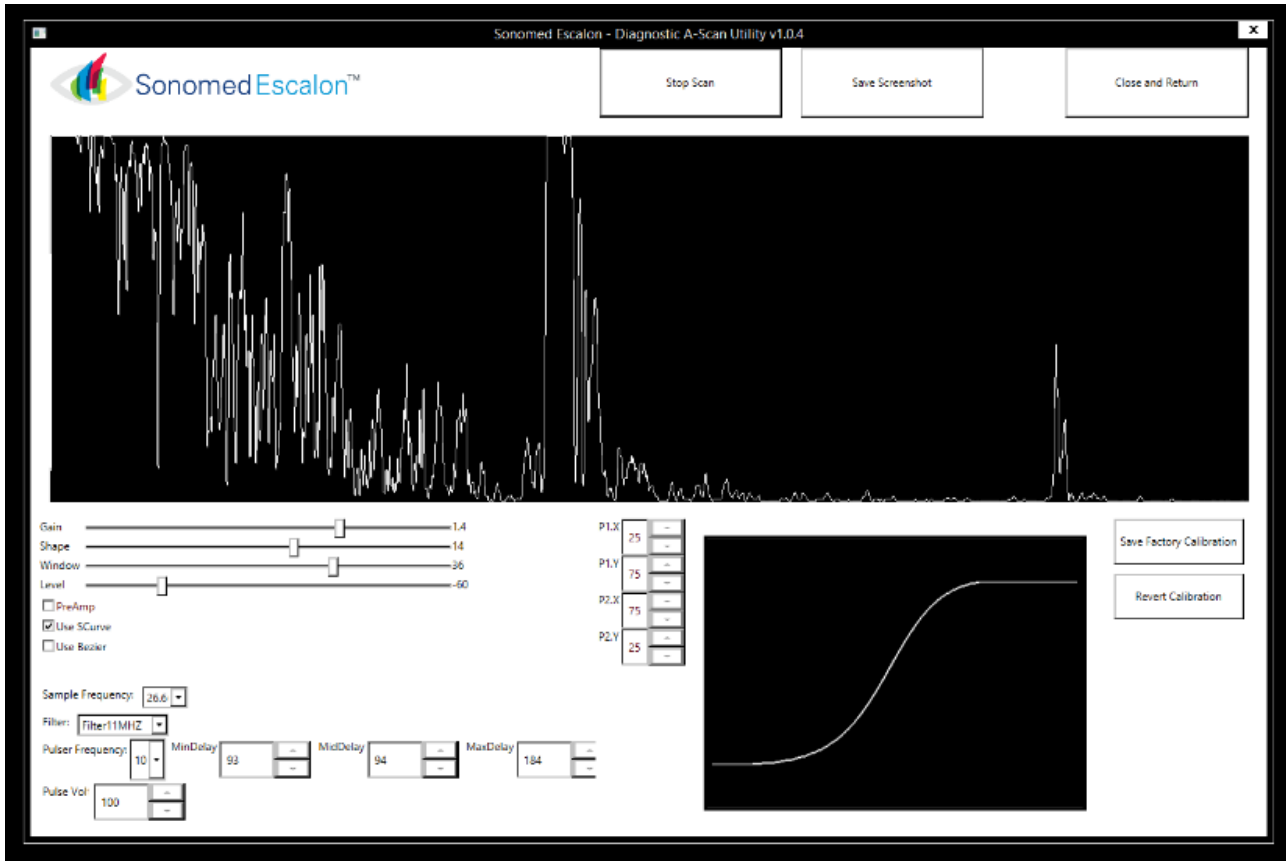

Fig. 12 Calibration Screen Window
⑧ **Close and Return:** Upon completing examination and saving a record of the test, select the 'Close and Return' button to return to the VuMax HD Patient Database screen.
⑨ **Calibration:** Clicking on the Sonomed Escalon logo while having the control key pressed, it will pop up the S curve calibration as in Fig.12.